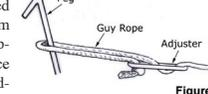

Figure 4
- Unravel the guy ropes and loosely peg out each one ensuring that they are all pegged directly in line with the seam or pole to which they will apply tension and support. Once this is achieved tighten the adjusters so that equal tension is applied to each guy point (see figure 4).